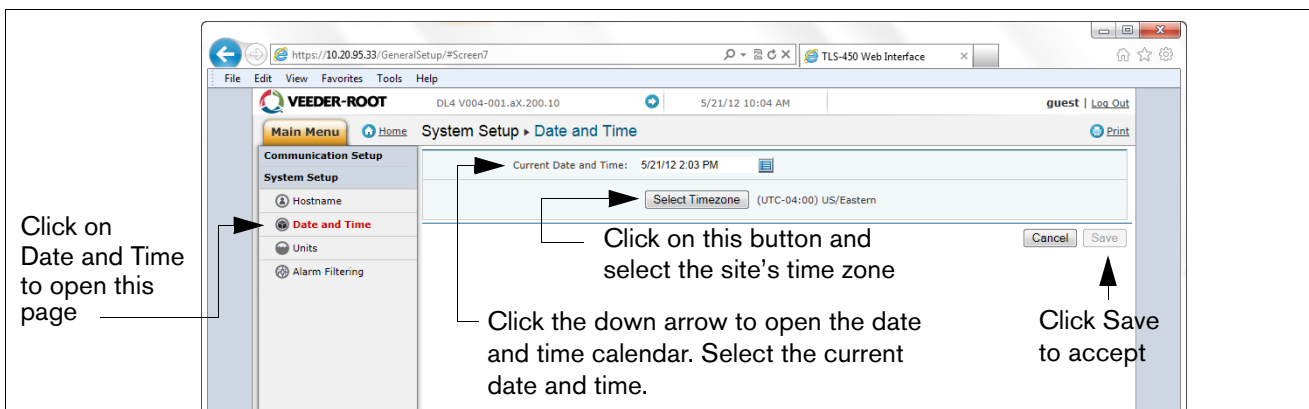

Figure 18. Entering Date and Time
15. From the System Setup menu, select Date and Time link to access the current date/time entry screen (see example in Figure 18).